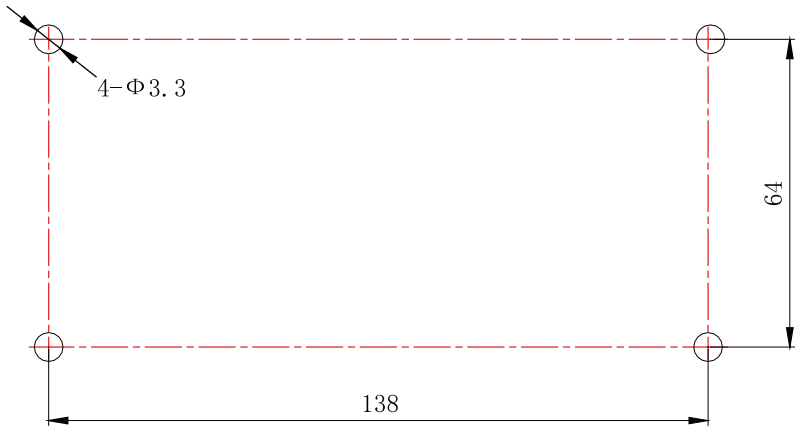

Figure 3-10 Installation Holes of the Electric Box Rear Cover
- 2) In case that the centralized controller is installed inside the control cabinet, dig 4 installation holes on the surface of the control cabinet according to fig.3-10.
- (4) In step ①, pull out the power core and communication cord, and then lead them separately from the wire orifice of the electric box rear cover. Never lead the cords through a same orifice.
- (5) In step ①, pull out the power core and communication cord, and then lead them separately from the wire orifice of the electric box rear cover. Never lead the cords through a same orifice.
- (6) In step ⑥ pull out the wire connecting the touch screen and controller's rear cover. Put the touch screen on a safe place.
- (7) In step ⑦, connect the communication cords to G1, G2 terminals, and connect the neutral wire and live wire to the N, L terminal; connect the